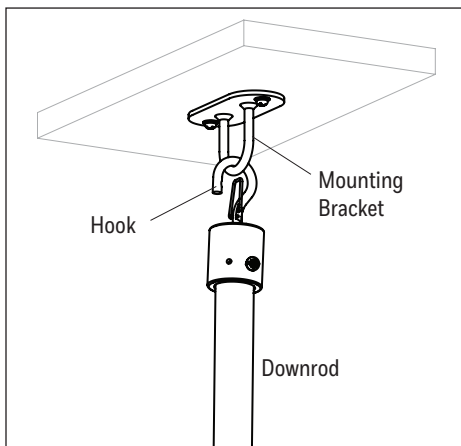

Figure 1.4
4. Hang the hook onto the mounting bracket (Figure 1.4).